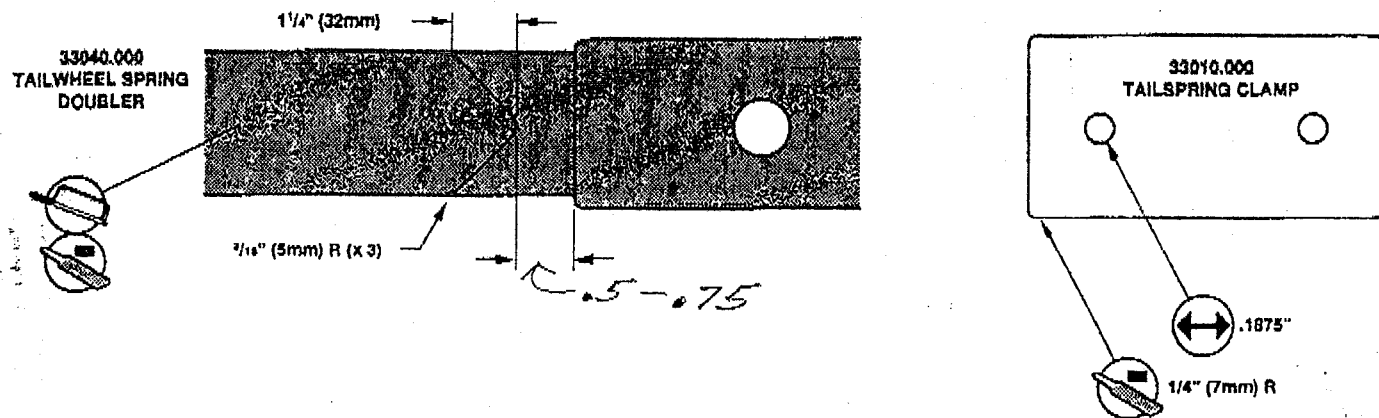

Figure 5
14. Trim the tailwheel doubler spring as indicated in Figure 5. The point of the doubler spring should be about  $\frac{1}{2}$  to  $\frac{3}{4}$  inch from the tailwheel casting when the tailwheel is bolted to the main tailwheel spring. Layout and drill the holes in the 33010.000 tailspring clamp as shown. The matching clamp plate on the fuselage will serve as a template for this.